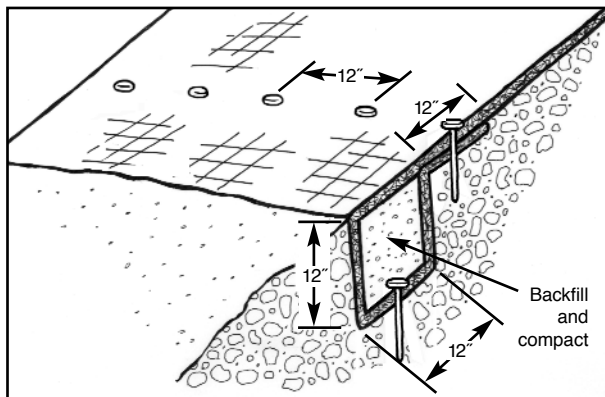

FIGURE 5 Initial anchor trench (downstream) detail
- ▶ Excavate an initial anchor trench 12 in (300 mm) minimum deep and 12 in (300 mm) minimum wide across the channel at downstream end of project (see Figure 5). Deeper initial anchor trench is needed in channels that have the potential for scour.
- ▶ Place roll end into the initial anchor trench and secure with anchoring devices at 12 in (300 mm) minimum intervals (see Figure 5). Position adjacent rolls and secure in anchor trench in same manner. Backfill and compact soil into trench.